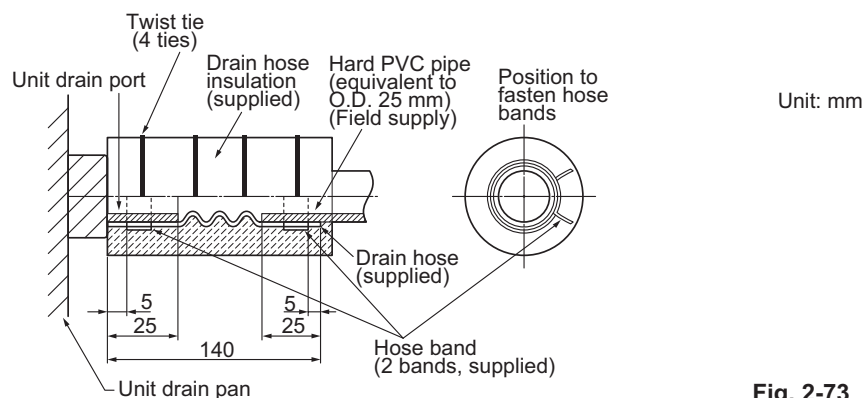

Fig. 2-73
- Attach so that the hose band fastener is on the side of the drain port. (Fig. 2-73)